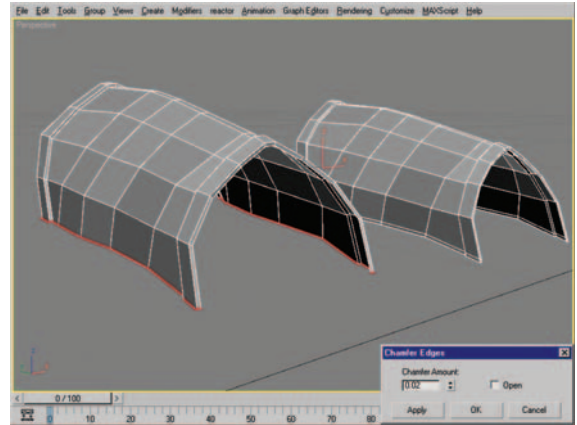

Figure 10.9 Edge selection before and after performing Chamfer.
11. At the Edge subobject level, select the edge loops seen in Figure 10.9 (left) and use the Chamfer settings dialog box with a Chamfer Amount of 0.02 to create the result seen in Figure 10.9 (right).